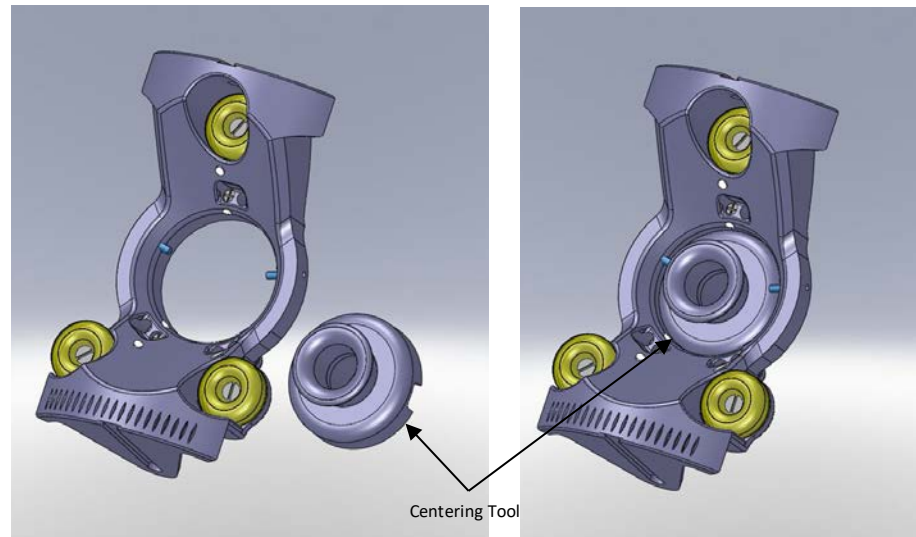

Figure 3: Base Mounting Orientation
2. Position the Base over the Centering Tool or visually center the Base over the burr hole with the single yellow fiducial marker in the up position. See Figure 3.
3. Using the supplied screw driver, mount the Base with the three (3) pre-mounted self-tapping screws to the skull.